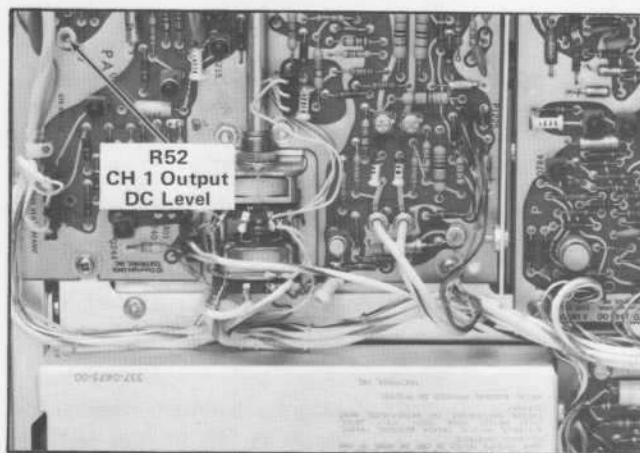

Fig. 5-13. Location of CH 1 output DC level adjustment (Vertical Preamp circuit board).
g. ADJUST—CH 1 Output DC Level adjustment R52 (see Fig. 5-13) to position the trace to the center horizontal graticule line.